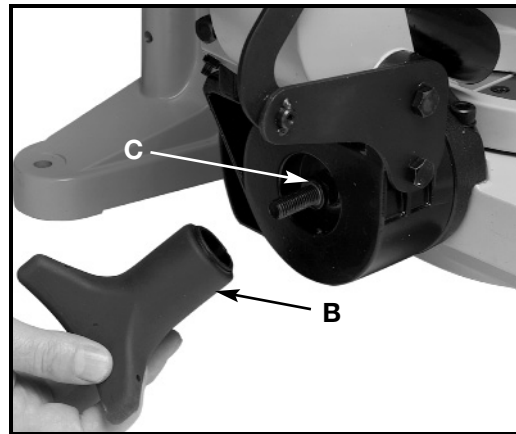

Fig. 27
After a long period of time, it may become necessary to adjust the sliding fit between the trunnion and the bevel bracket by tightening the adjusting nut (C), Fig. 27, located underneath the bevel lock knob (B) Fig. 27.